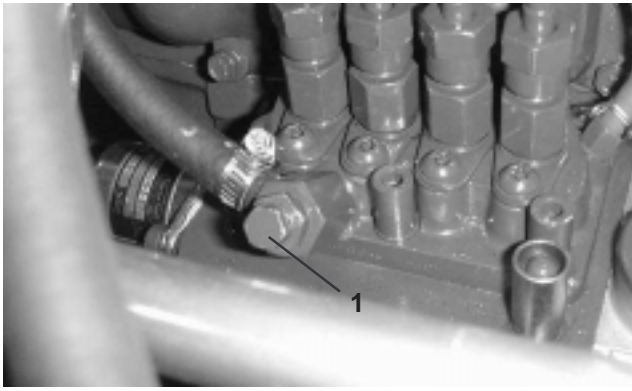

Figure 27
5. Open the air bleed screw on the fuel injection pump (Fig. 27).